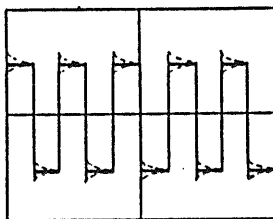

Figure 6-1
- 2) Connect to the CH1 INPUT terminal (11) the accessory probe with its switch set to the $\times 10$ position. Apply to the probe the 0.5-volt calibration signal from the CAL (Vp-p) terminal (1).
- 3) Set the AC-GND-DC switch (10) to the AC position. A waveform as shown in Figure 6-1 will be displayed.